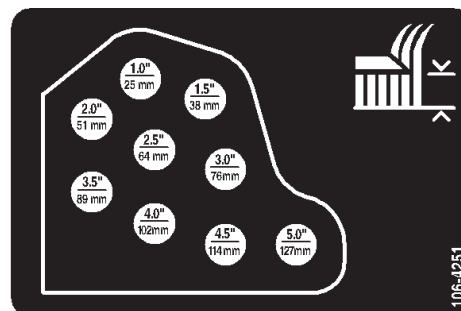

Figure 13
6. Mount the height-of-cut chains to the desired height-of-cut hole (Fig. 13) with the clevis pin and hairpin cotter.